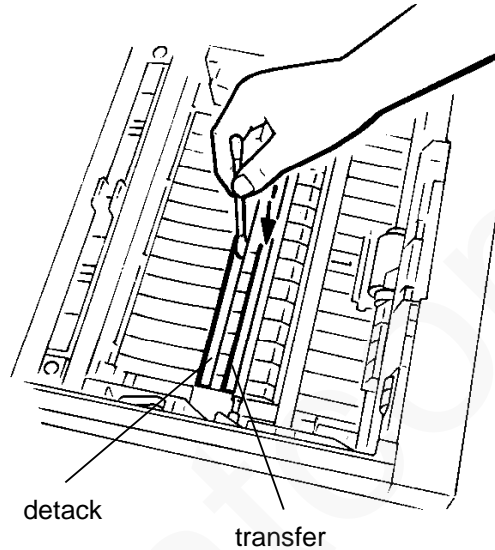

Figure 14. Transfer and Detack Corotron
- a. Inspect or clean the transfer corotron using a cotton swab (Figure 14).
- b. Inspect or clean the detack corotron using a cotton swab (Figure 14).